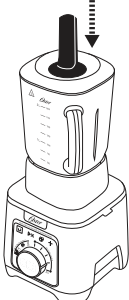

Fig. 8
1. With the blender on low speed, insert the tamper through the lid's opening. Use caution to avoid the blades. (Fig. 8)